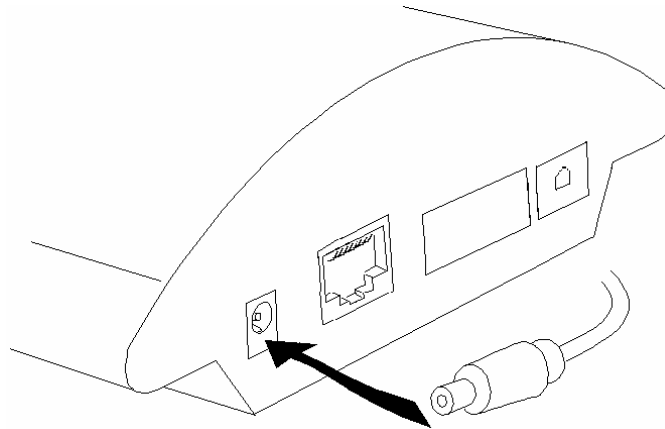

Fig. 9 – Supply Adapter Connection
- Now plug the supply adapter into a mains socket and connect the adapter connector to the gateway, see Fig. 9. The status indicators indicate the proper operation. For their meanings refer to Subs. 2.9.